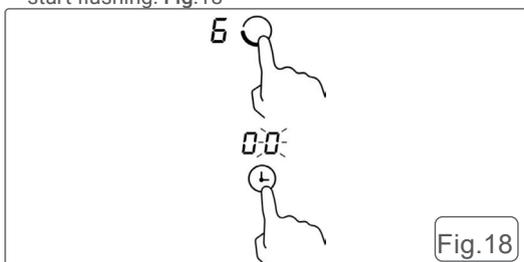

Fig.18
- Touch the Timer control. The display will show "00" and the first digit "0" will start flashing. Fig.18